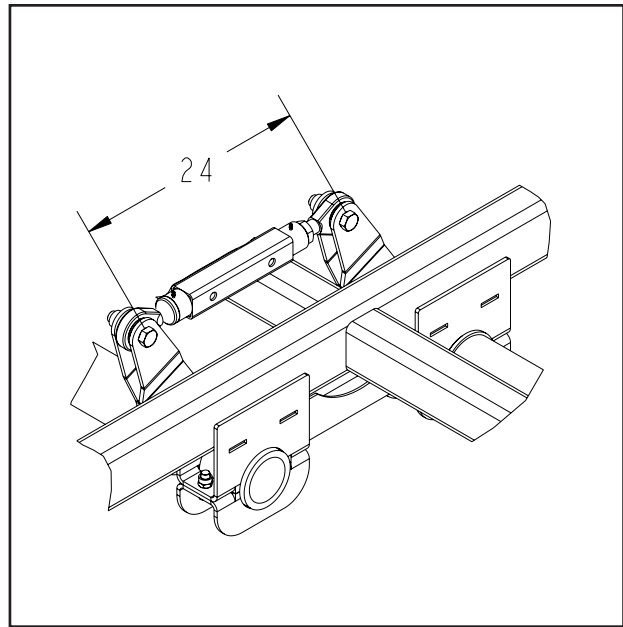

Figure 4-7 Radius Rod Measurement
- 4-8.2** An adjustable radius rod connects the main lifts together on the center frame and keeps them operating in unison. The radius rod should be set at 24" pin centers (**See Figure 4-7**). No further adjustment other than this can severely damage frame and lift components.